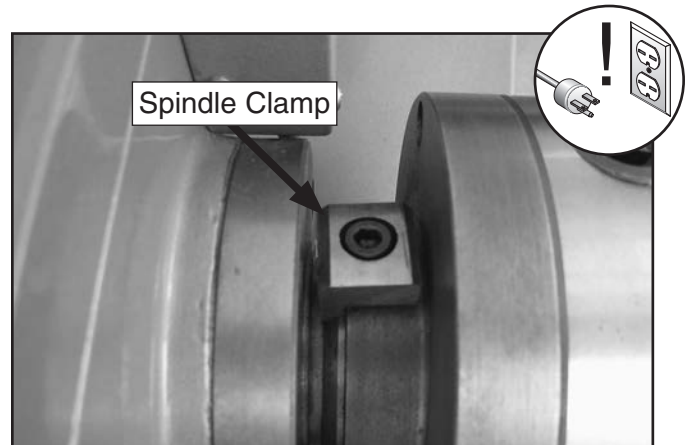

Figure 15. Spindle clamp.
3. Make sure the 3-jaw chuck is firmly mounted on the spindle. Check the clamps on the back of the chuck, as shown in **Figure 15** (refer to **Chuck & Faceplate Mounting/Removal** on **Page 22** for detailed instructions).